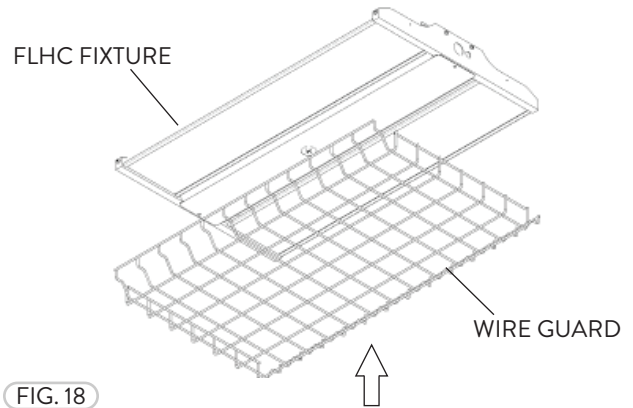

FIG. 18
- 1 The Wire Guards are in various sizes for the corresponding FLHC Fixture chosen (Fig. 18).